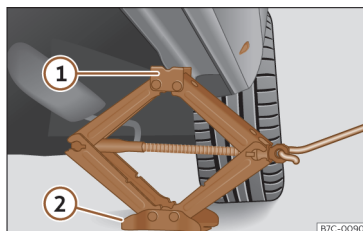

Fig. 197 Crossbar: mounting the jack on the vehicle.
- Turn the jack crank handle, located below the crossbar support point, to raise it until the tab ① >>> Fig. 197 is below the housing that is provided.
- Align the jack so that the tab ① “grips” onto the housing provided on the cross member and the mobile base ② is resting on the ground. The base plate ② should fall vertically with respect to the support point ①.